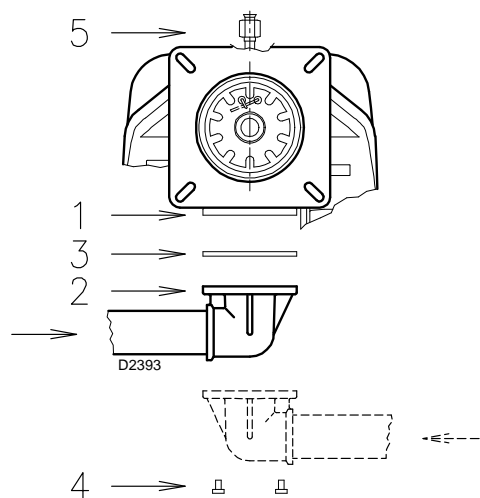

Fig. 19
- The gas train can enter the burner from the right or left side, depending on which is the most convenient, see Fig. 19.
- The gas train must be connected to the gas attachment 1) (Fig. 19) with the flange 2), the gasket 3) and the screws 4) supplied with the burner.
- The pilot gas train must be connected to the gas attachment 5)(Fig. 19) and can enter the burner from the right or left side.